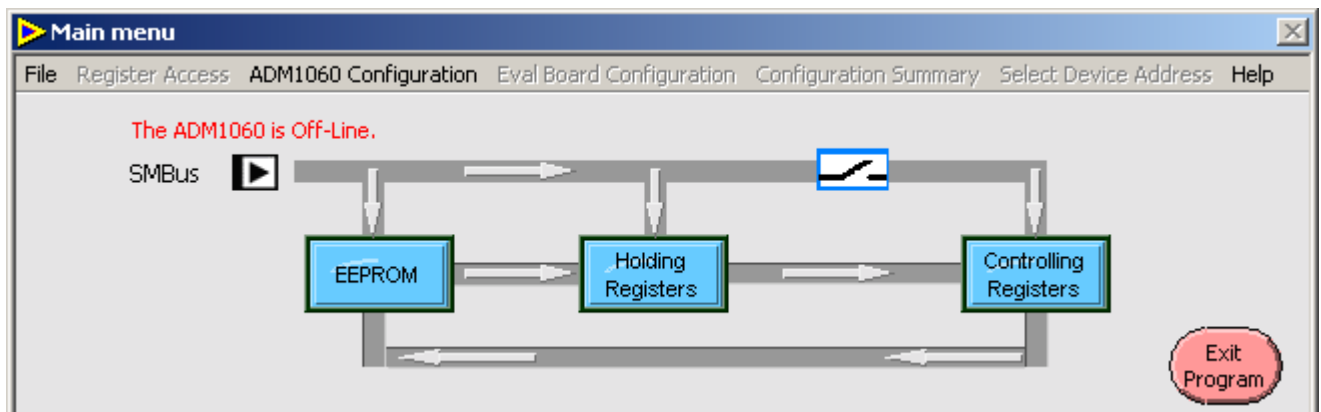

Figure 25. Floating Menu Bar (Off-line Mode)
- 3. Off-Line Mode (Figure 25):** Only the File and ADM1060 Configuration Menus are available. Files saved in Off-line mode may be recalled to an active device at a later time.